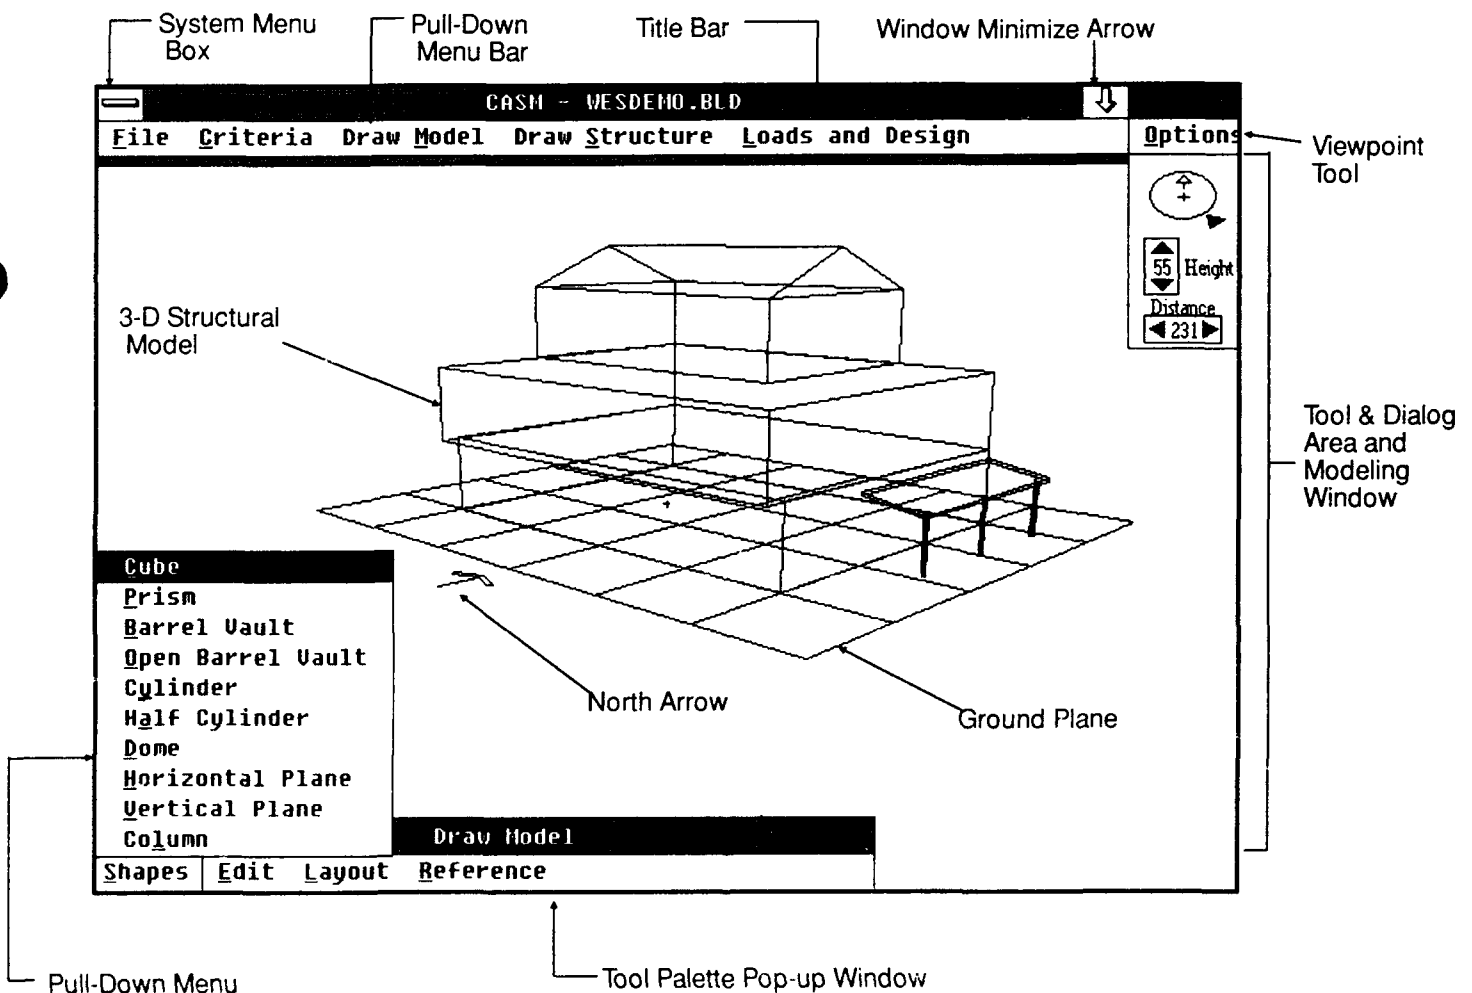
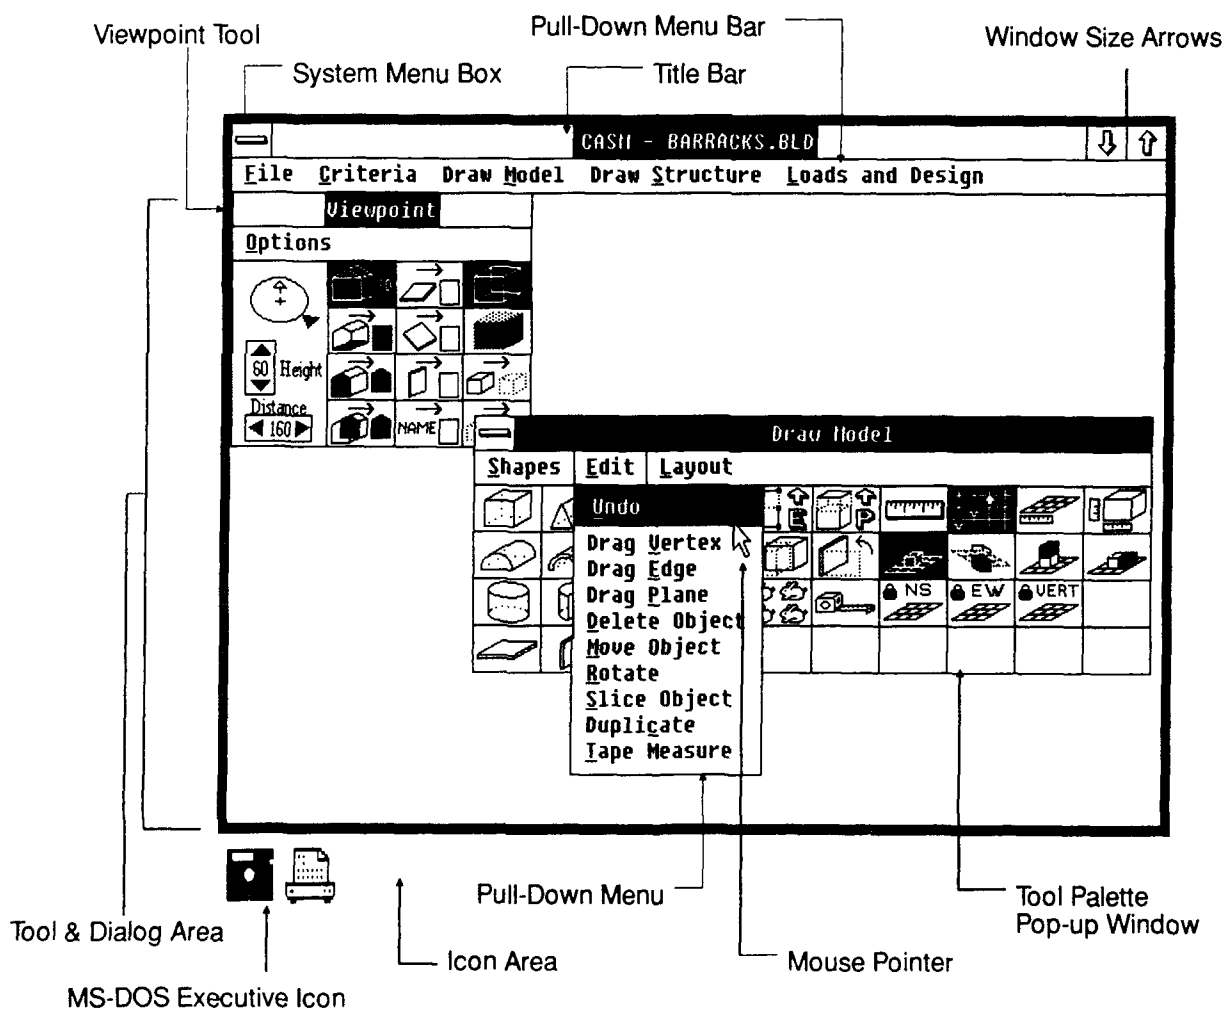

Figure 3.1. Single-Monitor System Screen Display.
Figure 3.2. Dual-Monitor System Primary Screen Display.
**Dual-Monitor System:** The primary monitor (EGA, VGA, or Monochrome) will display the program window and the secondary monitor (Hi-resolution MATROX) will display the ground plane. Please refer to Figures 3.2 and 3.3 in the CASM Program Window section.
**Single-Monitor System:** The monitor will display both the program window and the ground plane. Please refer to Figure 3.1 in the CASM Program Window section.
**Dual-Monitor System:** The primary monitor (EGA, VGA, or Monochrome) will display the program window and the secondary monitor (high-resolution MATROX) will display the ground grid. Please refer to Figures 3.2 and 3.3.
**Single-Monitor System:** The monitor (EGA or VGA) will display both the program window and the ground grid. Please refer to Figure 3.1.
The CASM program window provides you with a variety of command menuing options. You may use the keyboard to activate the commands in the menus; however, the program is much easier to use if you have a mouse. There are two CASM Window display options depending on your hardware configuration. The single-monitor option is displayed in Figure 3.1. The single-monitor configuration is used for a single EGA or VGA graphics card and monitor. The dual-monitor option is displayed in Figures 3.2 and 3.3. The dual-monitor configuration is used for a primary monitor consisting of a monochrome, EGA, or VGA graphics card and monitor and a secondary monitor consisting of a high-resolution Matrox SM graphics card and high-resolution, multi-sync, large-screen monitor. All of the CASM program window elements are displayed in the following figures. Following the figures is a brief definition of the program window elements.
The Viewpoint Tool is a small independent window in the upper left-hand corner of the Tool & Dialog area for the Dual-Monitor system (refer to Figure 3.2). For the single-monitor display the Viewpoint Tool is located in the upper right-hand corner of the Tool & Dialog Area (refer to Figure 3.1). You can move the Viewpoint Tool to different locations on the screen. The Viewpoint Tool can be used to change the orientation or view of the model on the modeling screen, such as viewing rotation, viewing height, and viewing distance from the center of the ground-level plane grid. In addition, the Viewpoint Tool can be used to change the views from 3-D wireframe, 3-D solid (dual-monitor system only), plan, or elevation by using the Viewpoint icons or the Options pull-down menu. Refer to the Reference section on how to change the views.